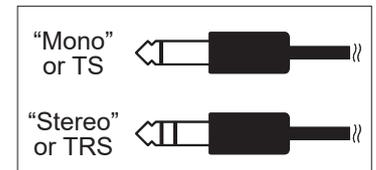

Fig. 3
- ◆ Controlling via **[EXPRESSION]** jack: Use "Stereo" or TRS phone cable which has two lines on the plug (Fig. 3).